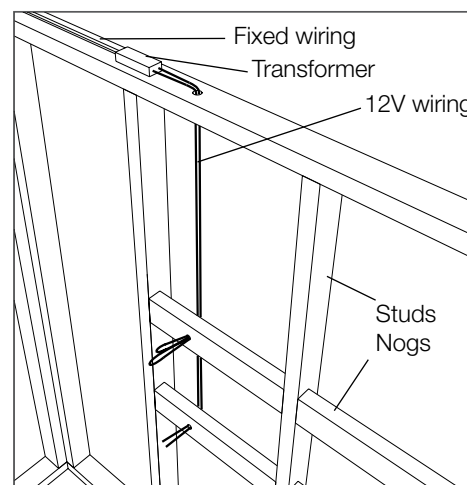

Fig 1.0
- For stud walls drill a 12 -16mm hole in the noggin for the low voltage wiring supplied at the leg position chosen. Typical layout see Fig 1.0 Table 1.0 for fixing dimensions.